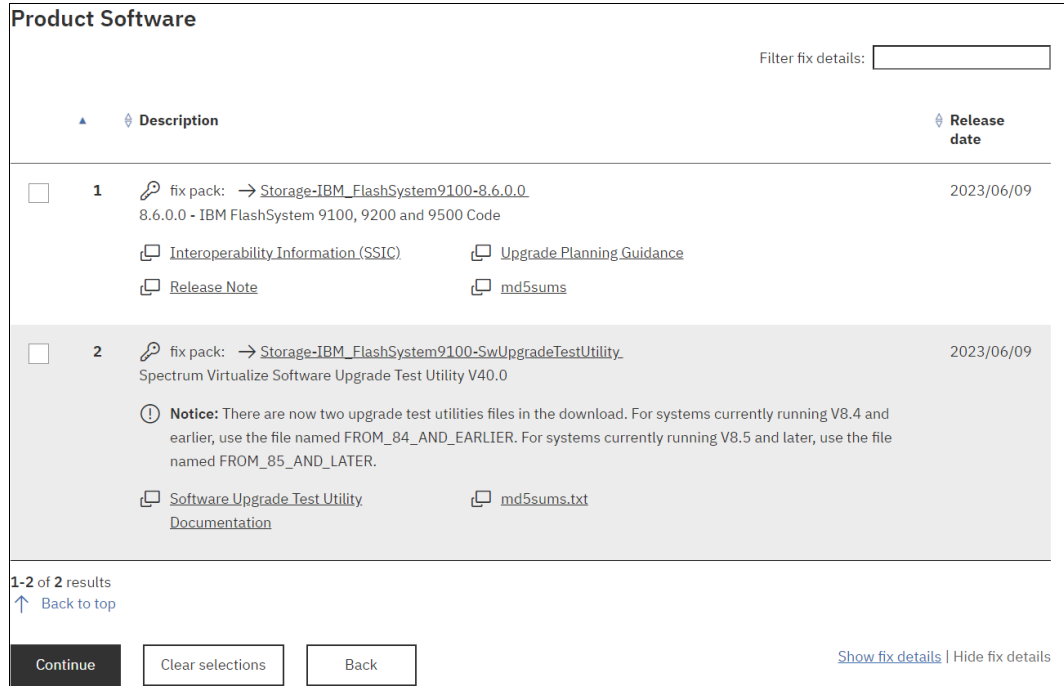

Figure 10-4 Fix Central download
10. Select **Download Now** and save the three files onto your management computer. Figure 10-4 shows the window for downloading the package.